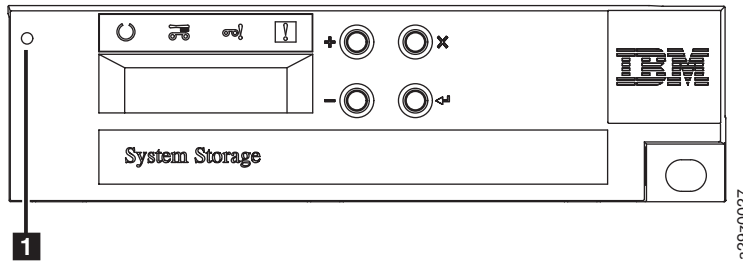

Figure 8-1. Cartridge magazine lock release access hole
1. On the front panel, locate the access hole for the cartridge magazine locking release mechanism to the left of the Operator Panel (1 in Figure 8-1).